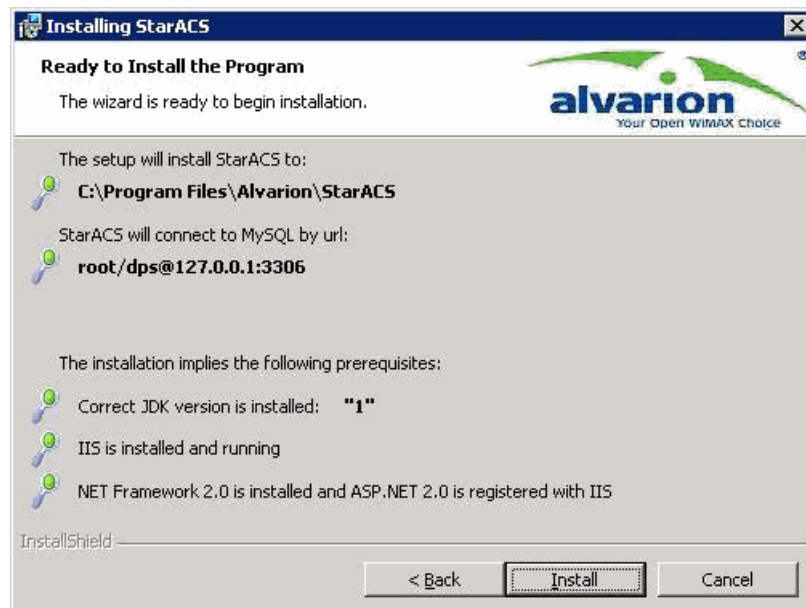

Figure 5: Ready to Install
- 5 Ready to Install the Program – verify the information on the screen (Figure 5):